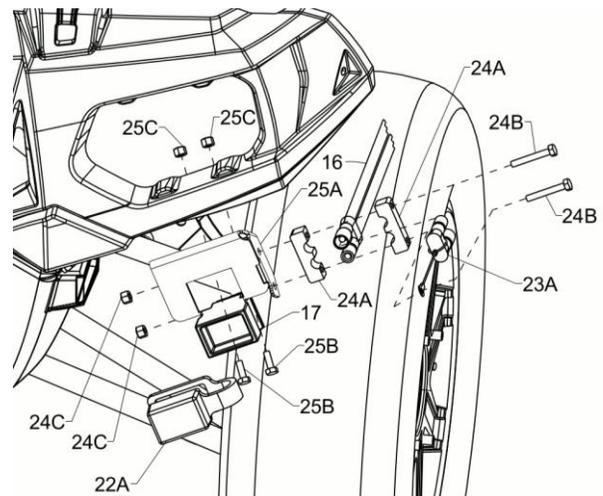

Figure 7. Control Harness Mounting Bracket Install G10754
3. Attach Mounting Bracket (25A) to the vehicle using two 1/4"-20 x 3/4" Hex Head Cap Screws (25B) and two 1/4"-20 Self Locking Nuts (25C) as shown in Figure 7.
4. Install plug end of Vehicle Side Power/Ground Cable (16) on to the Control Harness Mounting Bracket (25A) using the two Power/Ground Cable Mounting Brackets (24A), two 1/4"-20 x 1-3/4" Hex Head Cap Screws (24B), and two 1/4"-20 Self Locking Nuts (24C). Attach lanyard of Power/Ground Dust Cap (23A) to lower Hex Head Cap Screw (24B) as shown in Figure 7. (Install optional 8ft long Vehicle Side Power/Ground Cable (16) on vehicles with rear mounted battery).
5. Install the Vehicle Side Control Harness Dust Cap (22A) on to the large plug end of the Vehicle Side Wiring Harness (17) and insert the harness in to the Control Harness Mounting Bracket (25A).